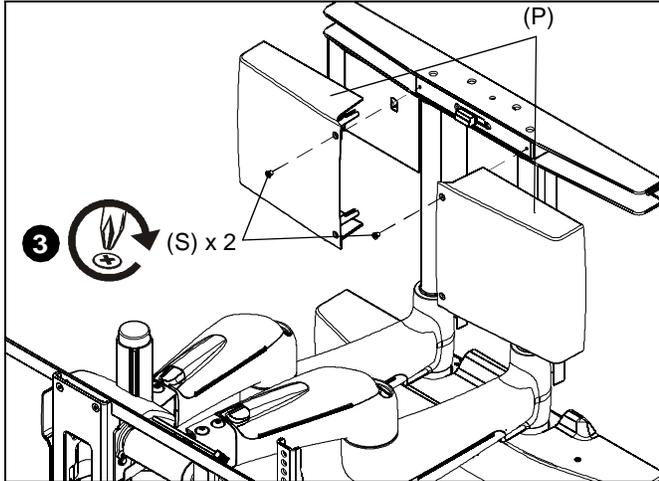

Figure 41
3. Add plastic covers (P) to PXR, fastening with two 8-32 x 1/4" Phillips flat head screws (S). (See Figure 41)